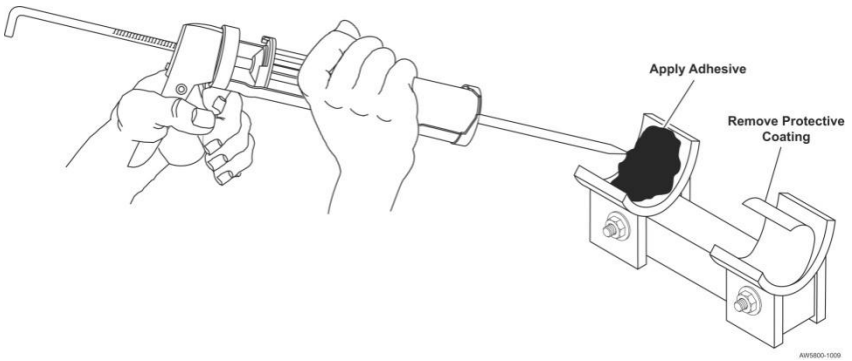

Figure 8. Applying Adhesive to Mounting Bracket
- C. Attach the mixing nozzle (350-0039-XXX). Following the adhesive manufacturer’s instructions, apply the adhesive **liberally** to the bottom of the bracket assembly. See Figure 8.